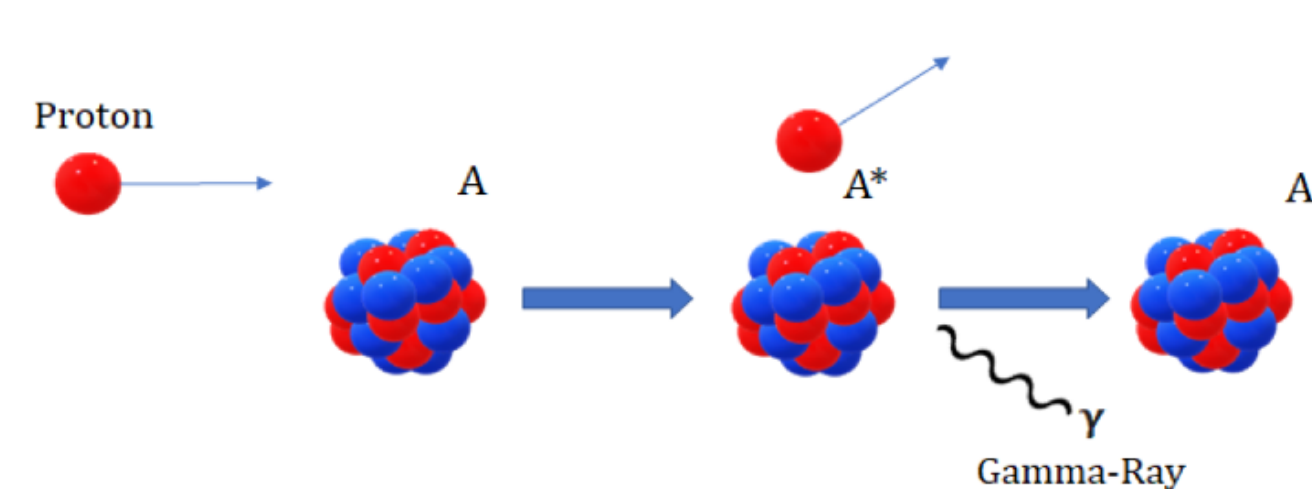

Figure 1: Schematic of PIGE process [2]
- **PIGE**, or proton-induced gamma-ray emission, is a form of nuclear reaction analysis and utilizes a high energy ion beam. Figure 1 above shows the process; in light elements, the proton can get close to the nucleus, putting it in an excited state, A^* . Then the nucleus deexcites by emitting a gamma-ray with an energy characteristic of the nucleus the proton interacted with [2].